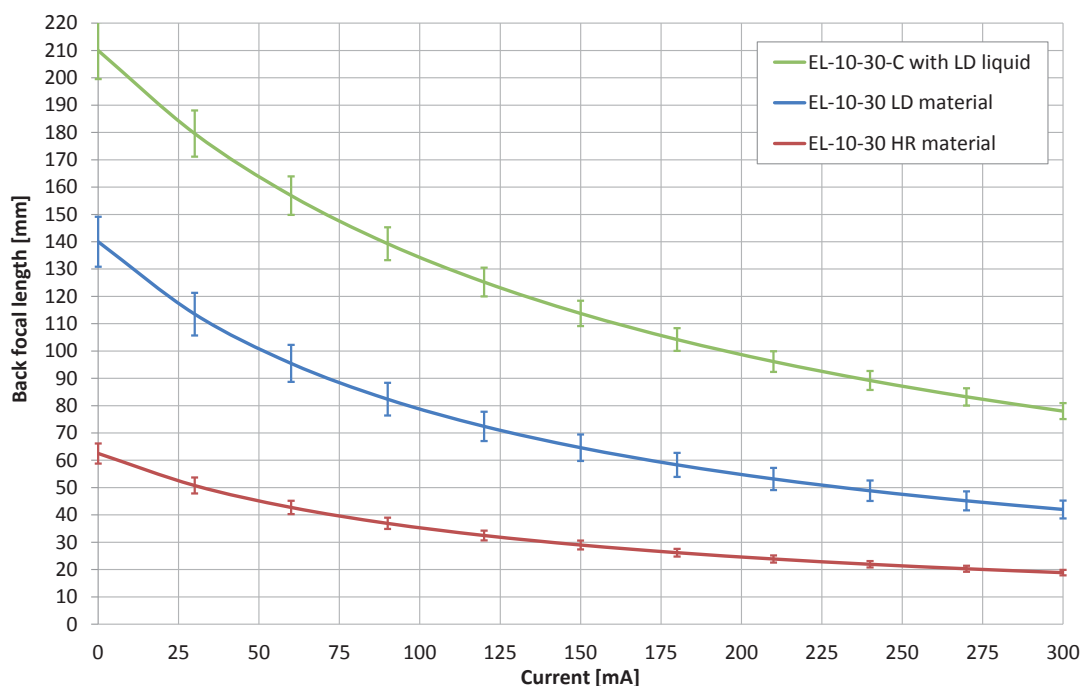

Figure 3: Typical relation of focal length to current of different EL-10-30 configurations
2. Measure the focal length and the current that flows through the lens with an ammeter at different levels. The back focal distance (measured from the back side of the lens housing) should follow a curve similar to the one depicted in Figure 3.